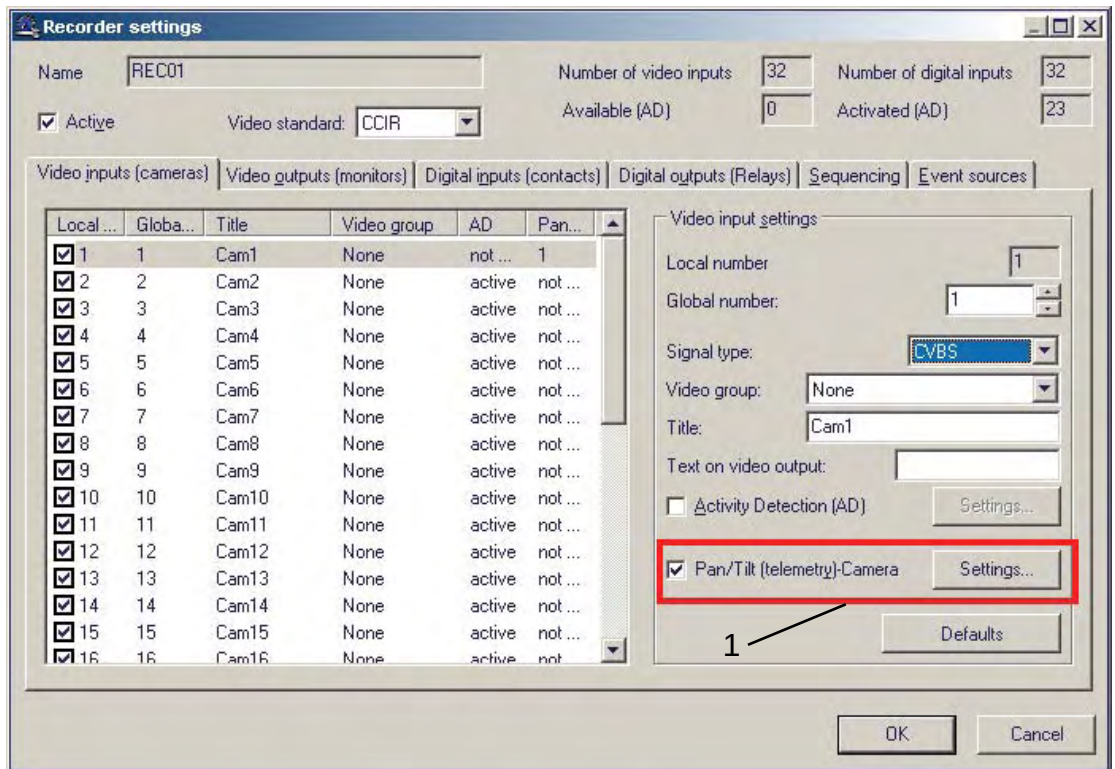

Figure 9-4: Allocation of pan/tilt system video channel
- Activate the camera and set the option "Pan/tilt system enabled" (see 1 in figure 9-4).